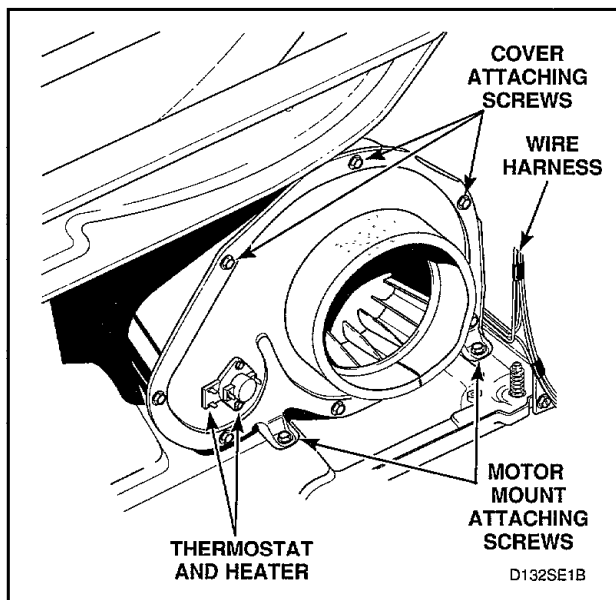
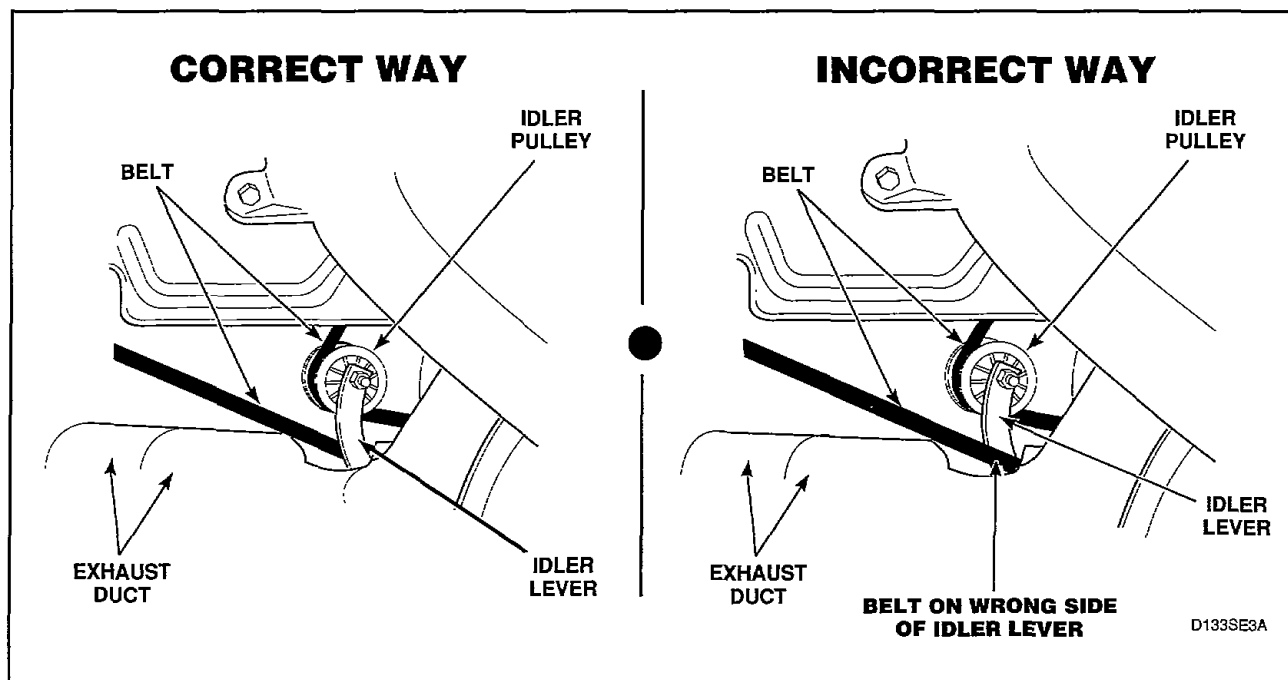
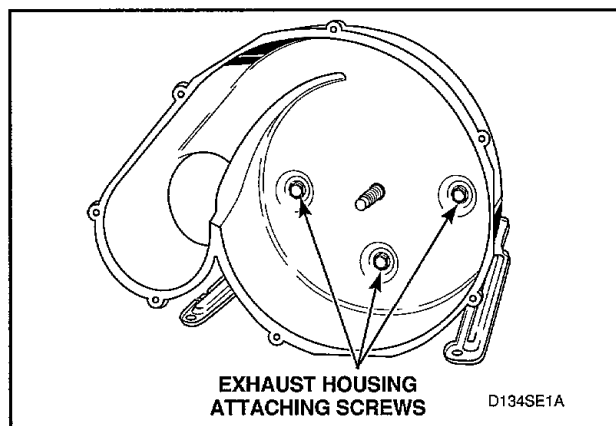
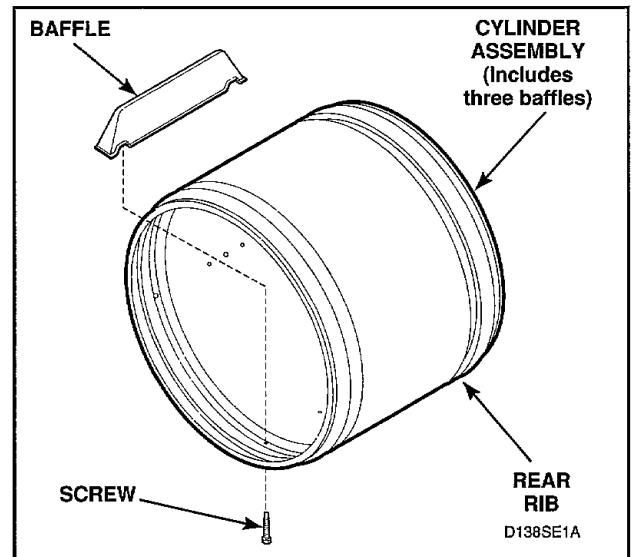

Figure 32
Figure 33
Figure 35
Figure 40
- e. Disconnect wires from thermostat and heater, *Figure 32*.
- f. Remove cylinder belt from idler and motor pulleys, *Figure 33*.
NOTE: When installing belt, make sure belt is properly installed on motor and idler pulleys, and is on the correct side of the idler lever, *Figure 33*. Belt must be positioned around cylinder approximately three inches ahead of the rear rib on cylinder, *Figure 40*, with the ribbed surface of the belt against the cylinder. After installing belt, manually rotate cylinder **counterclockwise** to check that belt is properly aligned.
IMPORTANT: When reinstalling motor and exhaust assembly, be sure wire harness on right side is clipped to motor mounting bracket and is routed along dryer base (between motor mounting bracket and right side of cabinet), *Figure 32*. Tab on rear of motor mounting bracket must be slid into slot in dryer base. Make sure the belt has been installed on the correct side of the idler lever, *Figure 33*.
- (1) Remove screws holding cover to housing, *Figure 32*.
- (2) Hold motor pulley securely and unthread impeller from motor shaft (right hand thread). Use a 7/8 inch, 6 point socket to aid in the removal of the impeller.
- (3) Remove three screws holding the exhaust housing to the motor mounting bracket, *Figure 35*.
- Disengage belt from motor and idler pulleys, *Figure 33*.
- e. Disengage belt from motor and idler pulleys, *Figure 33*.
NOTE: When installing belt, make sure belt is properly installed on motor and idler pulleys, and is on the correct side of the idler lever, *Figure 33*. Belt must be positioned around cylinder approximately three inches ahead of the rear rib on cylinder, *Figure 40*, with the ribbed surface of the belt against cylinder. After installing belt, manually rotate cylinder **counterclockwise** to check that belt is properly aligned.
Remove screws holding baffles to cylinder, *Figure 40*.
NOTE: When installing belt, make sure belt is properly installed on motor and idler pulleys, and is on the correct side of the idler lever, *Figure 33*. Belt must be positioned around cylinder approximately three inches ahead of rear rib on cylinder, *Figure 40*, with the ribbed surface of the belt against cylinder. After installing belt, manually rotate cylinder **counterclockwise** to check that belt is properly aligned.